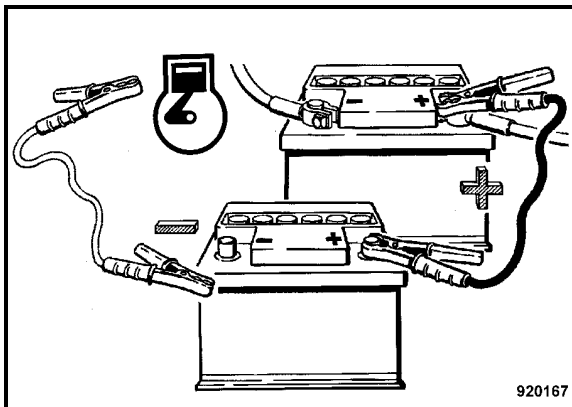

Fig. 60
- Then connect the ground cable first to the minus pole of the current supplying battery and then to engine or chassis ground, as far away from the battery as possible (Fig. 60).